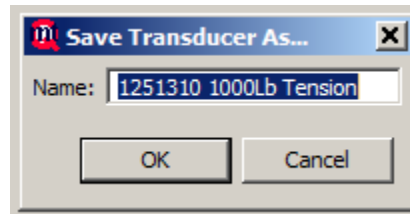

Figure 12: Load Calibration Setup Window
- 3.3.11 Move the mouse to the lower Gray area below the Load Cal Setup area. Right Click and then select the Save As option in the widow that appears. The “Save Transducer As” window shown in Figure 12 will open. Enter a name for the transducer that will identify it for future tests. It is recommended that the name include the serial number and capacity of the cell, at a minimum to ensure the correct cell is chosen in multiple cell installations. After entering the Transducer name click on the OK button to save the calibration parameters.